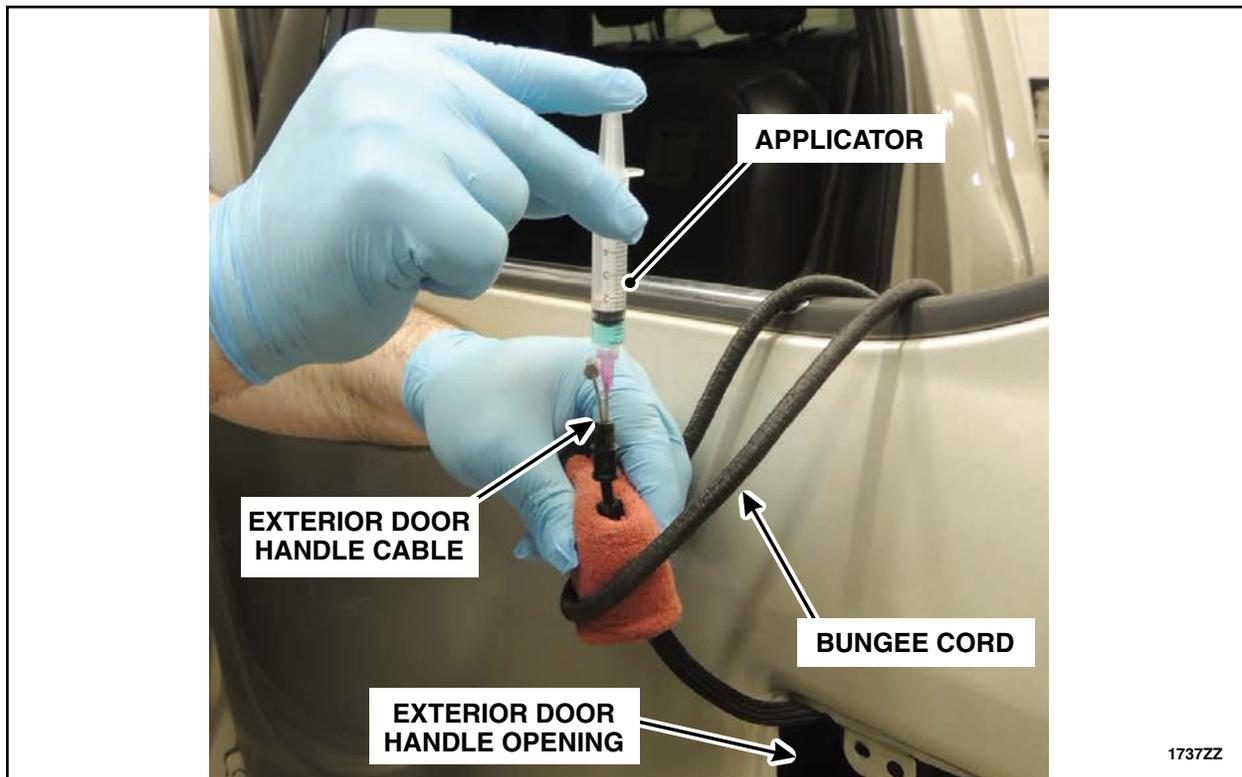

FIGURE 43
13. Towel dry the exterior door handle cable to absorb any residual moisture. Using a bungee cord or other similar device secure the exterior door handle cable to the door in an upward position as shown in Figure 43, to allow the undiluted Motorcraft® Premium Windshield Wash Concentrate (ZC-32-B2) or a 99 percent methyl hydrate (methanol) product time to run down into the cable, until the exterior door handle cable is reinstalled later in this procedure.